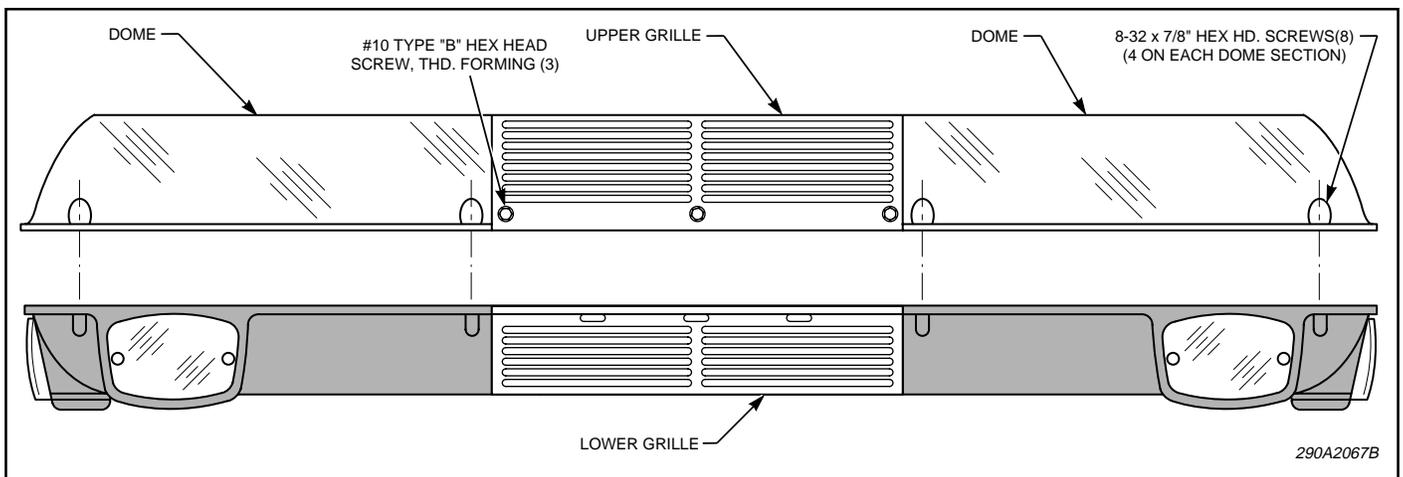

Figure 1.
B. DOME AND GRILLE REMOVAL (See figure 1).
2. Remove the three (3) #10 hex washer head thread-forming screws which secure the upper speaker grille to the lower speaker grille. Lift upper grille away from lower grille.